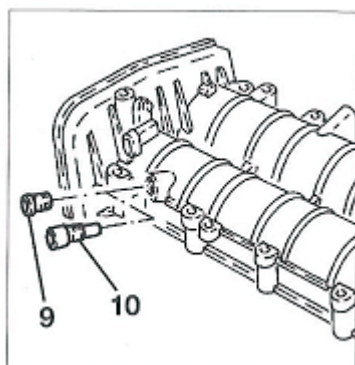

FIG. 1
- Lock pin exhaust camshaft [FIG. 1] (10).